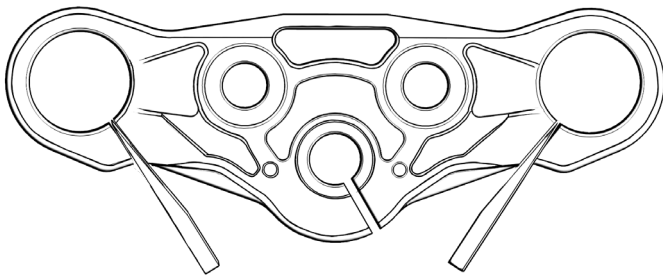

Fig. 3
1. Before installing forks into either KRAUS tree, use spreader/shims to open the bore of each tree. **(See Fig. 3)**